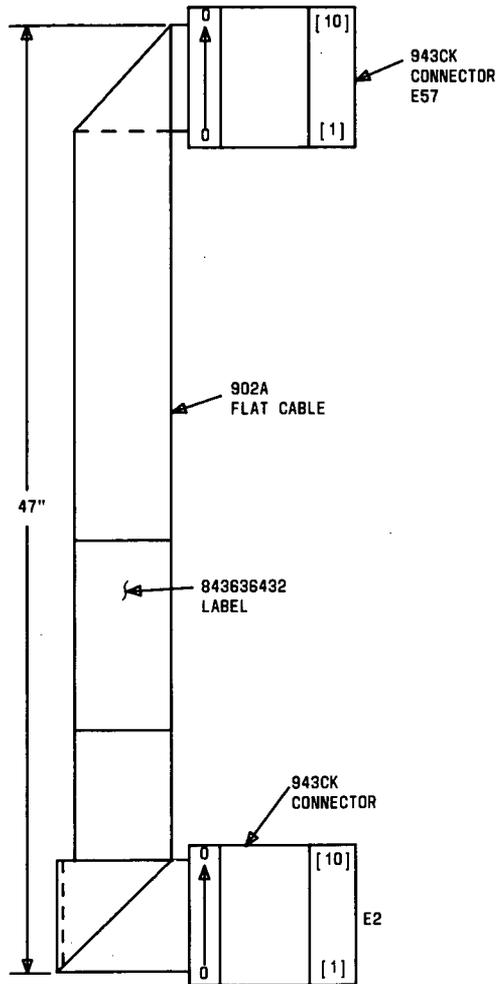

Figure 22. ED-1E434, Group 8 Cable
Install the ED-1E434, Group 8 cable(s) (Figure 22) from E57 on the module control (01) backplane to connector E2 on the ZAEY2 circuit pack (ED-1E469, Group 3 Extended MAAP Bracket) for each central module associated with RMI as shown in Table E. This cable is not required for an unduplicated system.